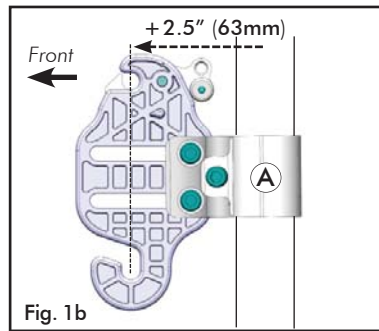

Fig. 1b
- Inverted Orientation (Fig. 1b/2b) = minimized seat depth